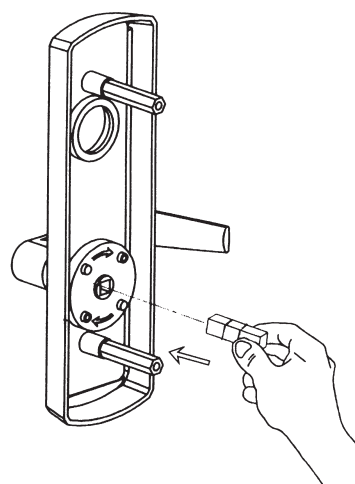

Figure 6-2
2. Insert spindle into the hub of the spring cage on the outside trim (see Figure 6-2).